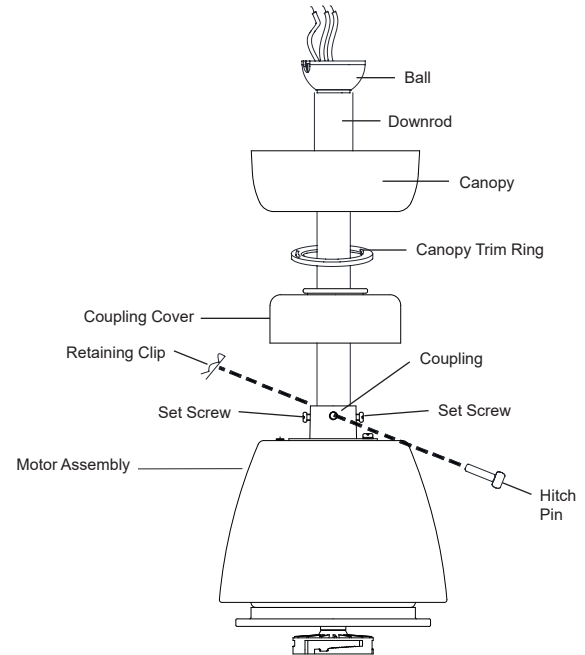

Fig. 8
Step 4. Loosen the two set screws (do not remove) in the coupling on top of the motor assembly. **(Fig. 8)**
Step 5. Carefully feed the wires from the coupling on top of the motor assembly up through the downrod. (Fig. 8)
Step 6. Thread the downrod into the coupling on top of the motor assembly until the hitch pin holes in the downrod and the hitch pin holes in the coupling are aligned. Carefully insert the hitch pin through the holes in the coupling and the downrod. (Fig. 8)
Insert the retaining clip through the hole in the hitch pin until it snaps into its locked position. (Fig. 8)
Step 7. Tighten the two set screws in the coupling on top of the motor assembly firmly. (Fig. 8)
Step 8. Carefully slip the coupling cover, canopy trim ring (smooth finished side facing motor body), and canopy onto the downrod. (Fig. 8)